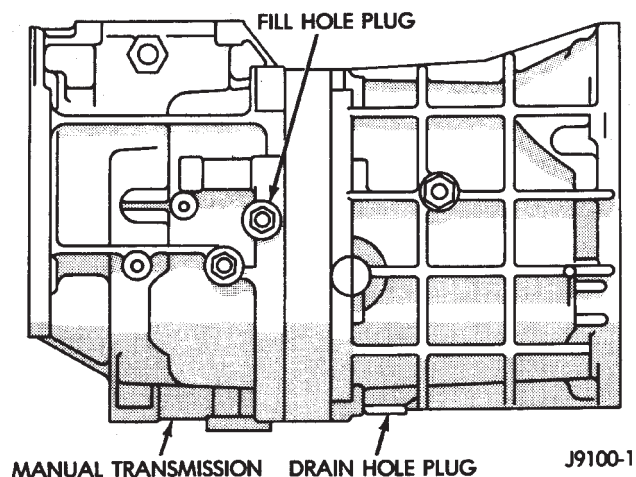

Fig. 4 Manual Transmission Fill- & Drain-Hole Plugs—Typical
The fill-hole plug for all manual transmissions is located on the right side of the case (Fig. 4). Determine the lubricant level according to the following procedure.
(1) Remove the fill-hole plug (Fig. 4) from the transmission. The lube oil should be level with the bottom edge of the fill hole. The level can be slightly below the bottom edge of the fill hole if the lube oil is cold.